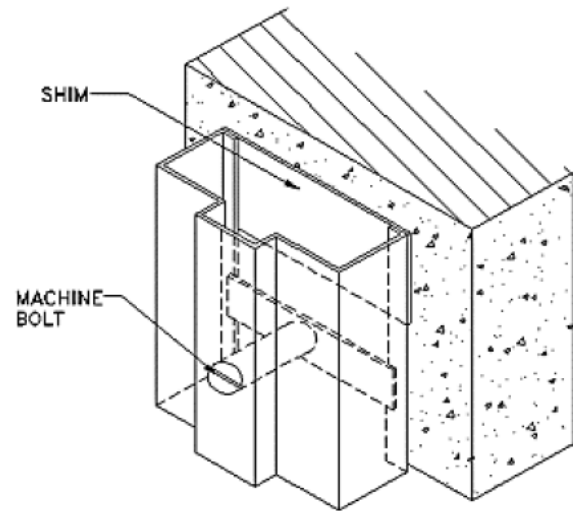

Figure 26
3. Install frame: Insert bolts (3/8 in. flat-headed sleeve anchors must be used on fire rated frames) through the frame soffit into the expansion shields. (Figure 26) Shim behind anchors above bolts to ensure a plumb frame. The methods of plumbing the frame, and the use of the spreader noted under Masonry Wall, also apply to this wall condition. Tighten the screws. Continually check plumb, square, and twist in the jamb as tightening progresses.